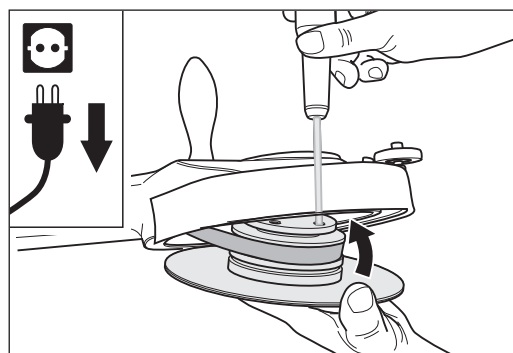

Fig. 74 For simplified assembly, insert a screwdriver from above through a hole in the attachment into a hole in the bearing unit of the sanding disc wheel.
- 18** To make sure that the hole pattern of the attachment and the fixture of the sanding disc wheel line up properly, insert a screwdriver from above through a hole in the attachment into a hole in the fixture of the sanding disc wheel (Fig. 74).